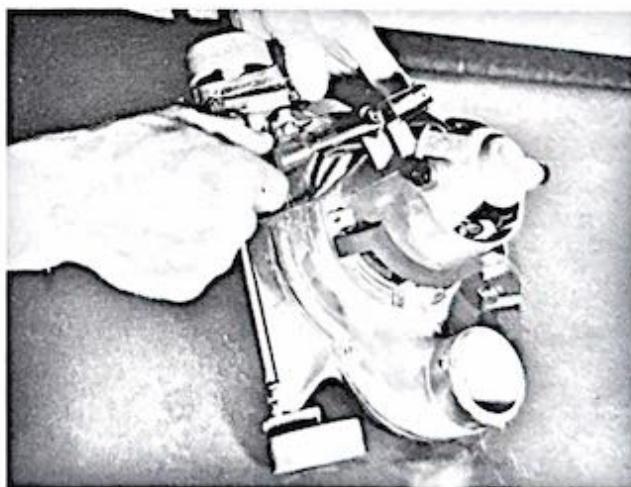

Figure 1-38. Installing leads on foot switch bottom terminal
b. Inspection, test, and replacement. Inspect and test the foot switch in the same manner as directed in paragraph 1-5b. If the foot switch is defective, disconnect the leads, taking note of their respective positions. One headlight lead and one field lead should be connected to the terminal at the bottom of the foot switch (see fig. 1-38); the remaining headlight lead and one lead from the safety switch should be connected to the terminal at the side of the foot switch.
b. Loosen the bottom terminal screw (see figure 1-38) of the foot switch and disconnect the safety switch lead and the headlight lead.